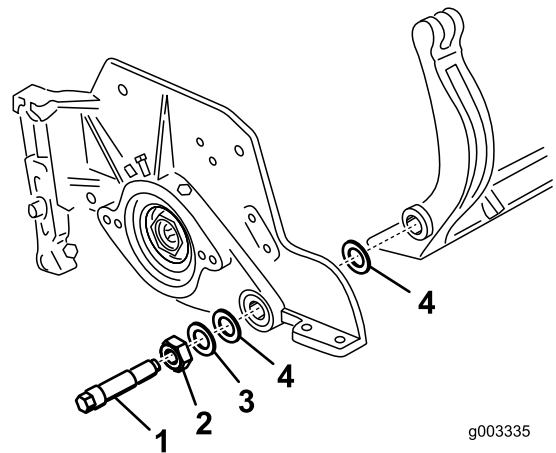

Figure 31
**Note:** Account for 2 nylon and 1 stamped steel washers on each end of bedbar (Figure 31).
**Note:** Position a nylon washer on each side of the side plate boss. Place a steel washer outside each of the nylon washers (Figure 31).